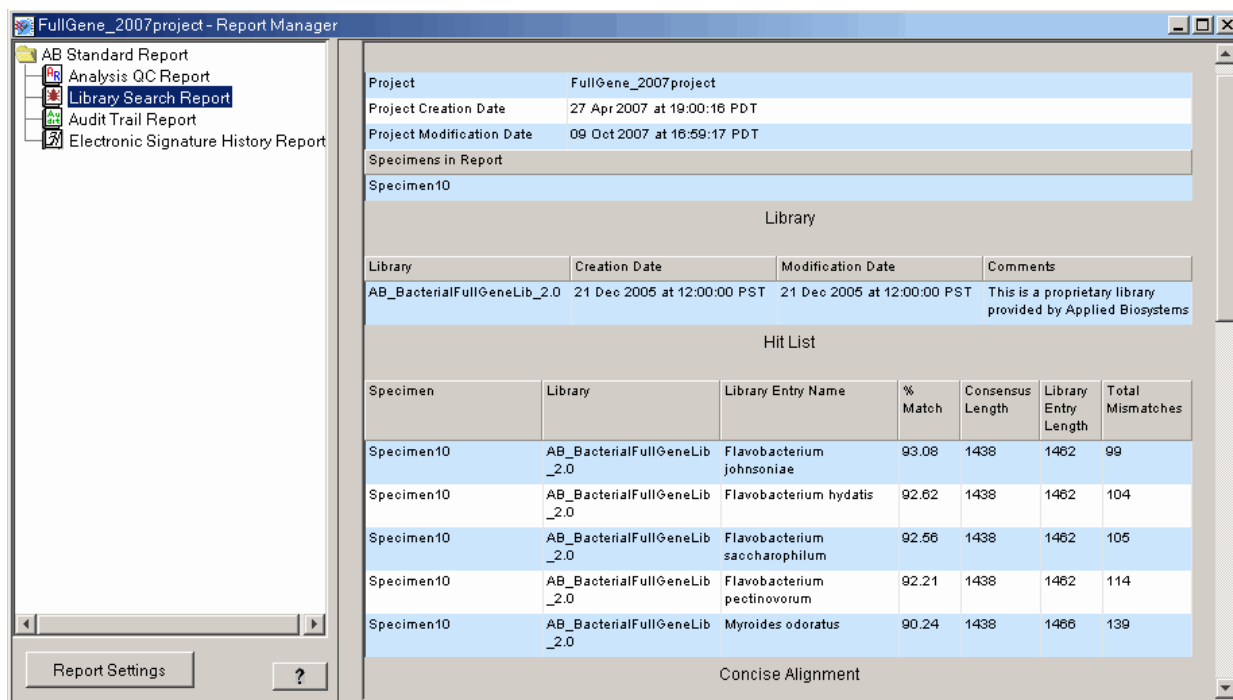

Figure 4 Example Library Search Report
- **Library Search Report** – Provides more detailed information about the libraries that were searched, including a list of all the top matches and the total number of bases searched. See Figure 4.